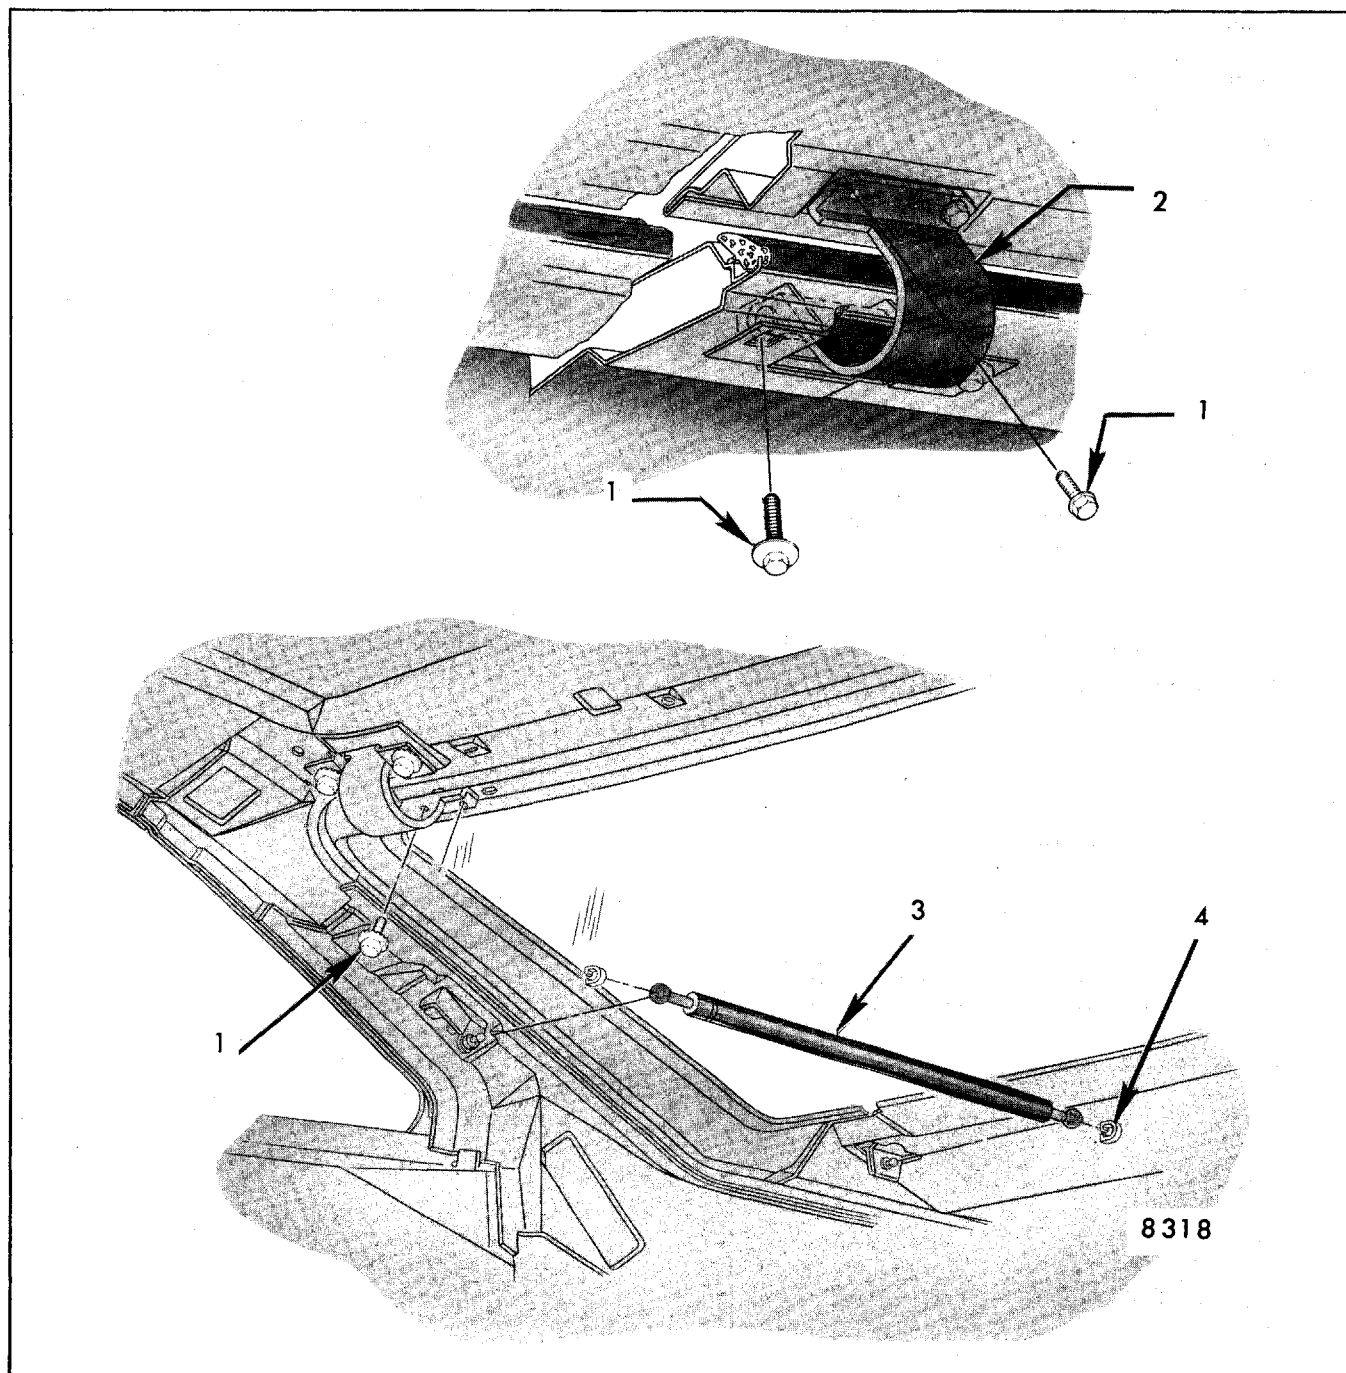

Fig. 7-8-Hatchback Lid and Gas-Operated Support Assembly Attachments
6. For X-17 styles, mark location of hinge attachments on lid inner panel and remove lid side attaching screws from each hinge (Fig. 7-8) and remove lid.